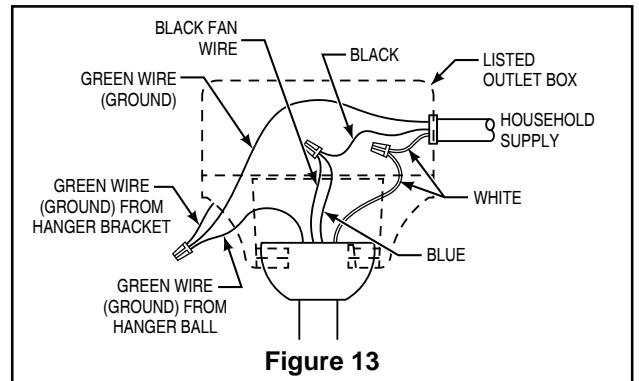

Figure 13
1. Connect the green grounding lead from the hanger ball and the green grounding lead from the hanger bracket to the supply grounding conductor (this may be a bare wire or wire with green colored insulation). Securely connect wires with wire connectors supplied. (Figure 13)
2. Securely connect the white fan motor wire to the white supply (neutral) wire using wire connector supplied. Securely connect the black fan motor wire and blue wire to the black supply wire using wire connector supplied. (Figure 13)